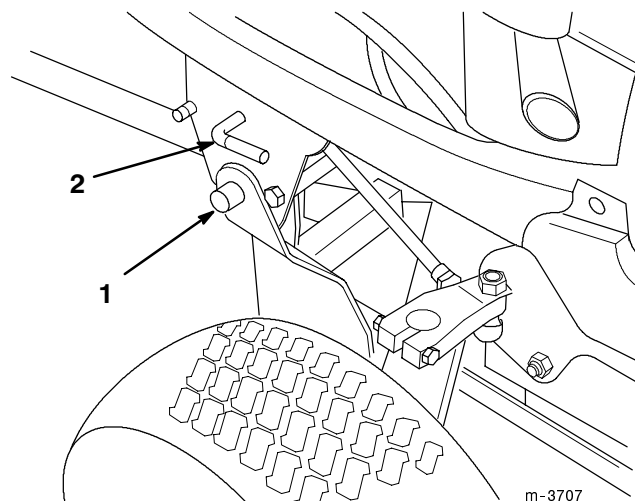

Figure 13
- Use the crank support as a lever to lift the snowthrower frame until its connecting pins are completely inside the notches in the mid Attach-A-Matic™ (Fig. 13).
- Turn the mid Attach-A-Matic™ lever counterclockwise to lock the snowthrower in place (Fig. 13).